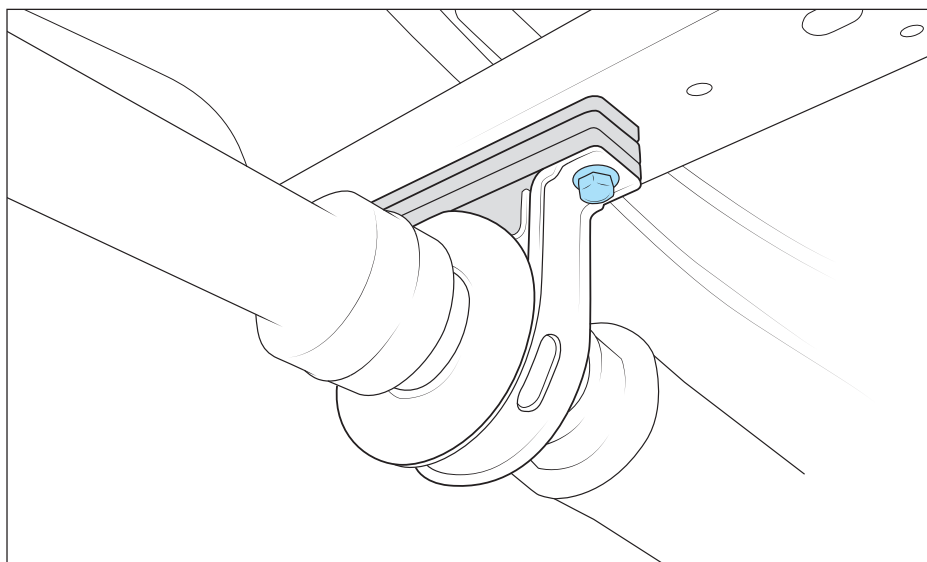

Figure 10
13. Remove driveshaft pillow block from frame. Install three (3) provided spacers with supplied bolts. This will help improve driveline angle and prevent vibration (fig. 10).